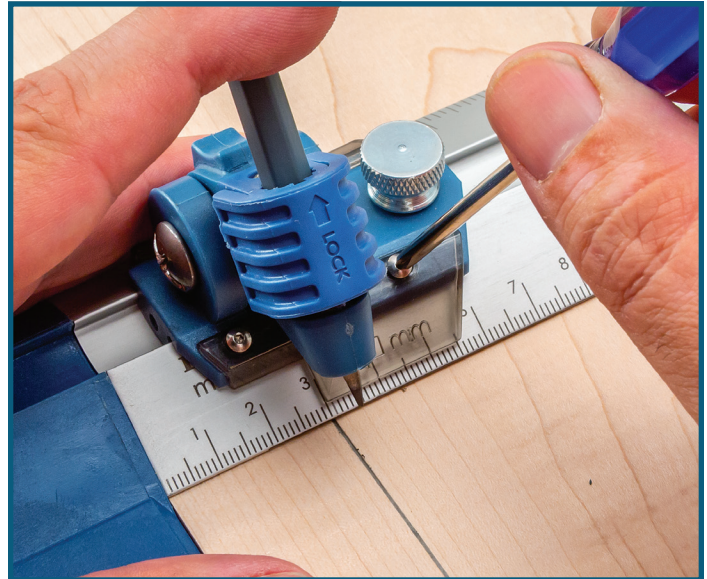

Fig. 2
6. Carefully rotate the pencil up and hold it so you can access the transparent indicator. Use a small Phillips-head screwdriver to loosen the screws, and adjust the indicator until its beveled edge is precisely on the measurement you used to make your mark. **Fig. 2.**